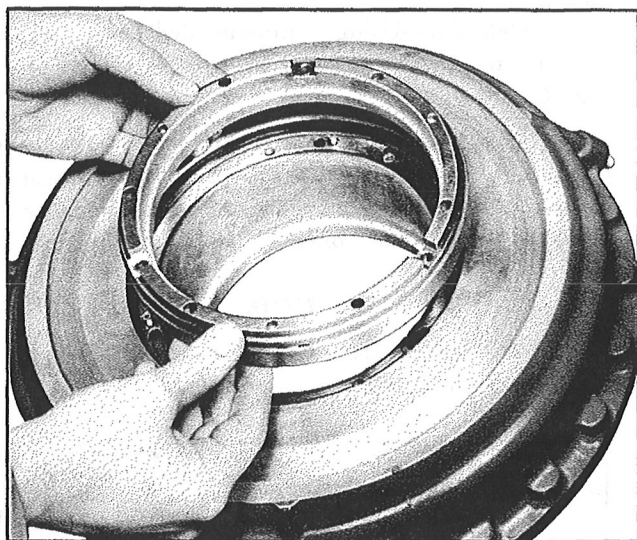

Figure 166—Installation of the Adapter Ring
Step 29.—Install the adapter ring. See Figure 166.